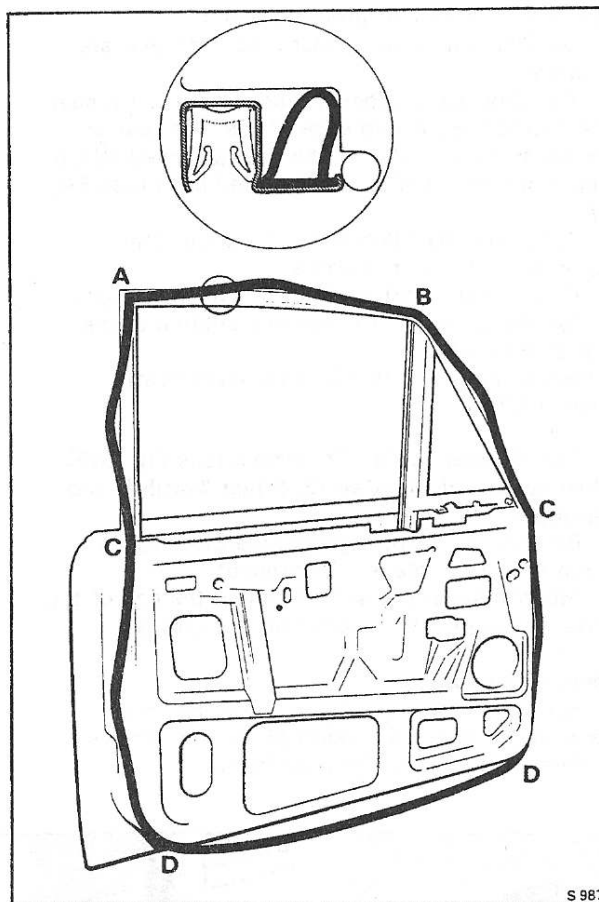

Fig. S17 Fitting the door seal (Silver Shadow II, Bentley T2 and Silver Wraith II)
2. Fit the door seal at the points A, B, C and D shown in Figure S17.
Locate the seal to the inner part of the door channel, above the points C-C in Figure S17 then, press in the outer edge a short length at a time.